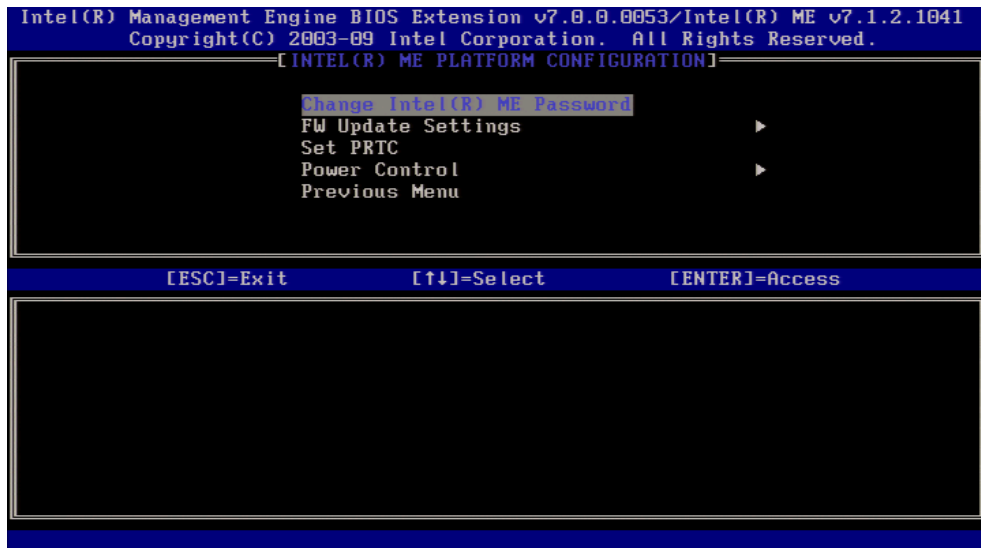

Figure 2. Intel ME General Settings Screen
4. Go to the Intel ME General Settings (Figure 2).